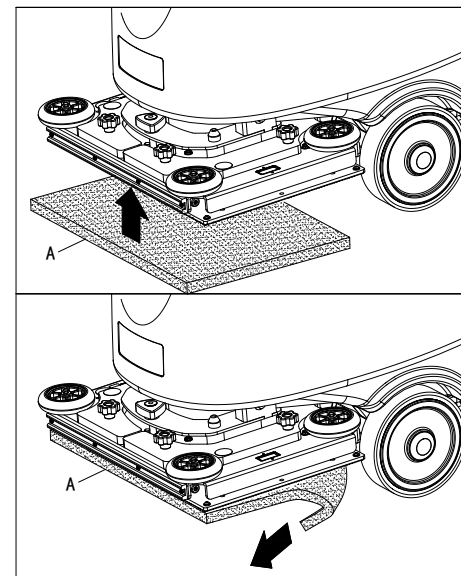

Figure 5.1
1. Lift the deck by pressing the switch (60) .
2. Install and uninstall the pad (A, Figure. 5.1)